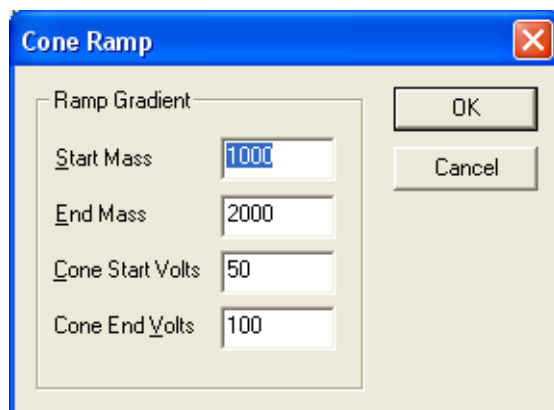

Figure C-5 Cone Ramp Dialog Box
1. Select Ramps > Cone Ramp Gradient to open the Cone Ramp dialog box (Figure C-5).